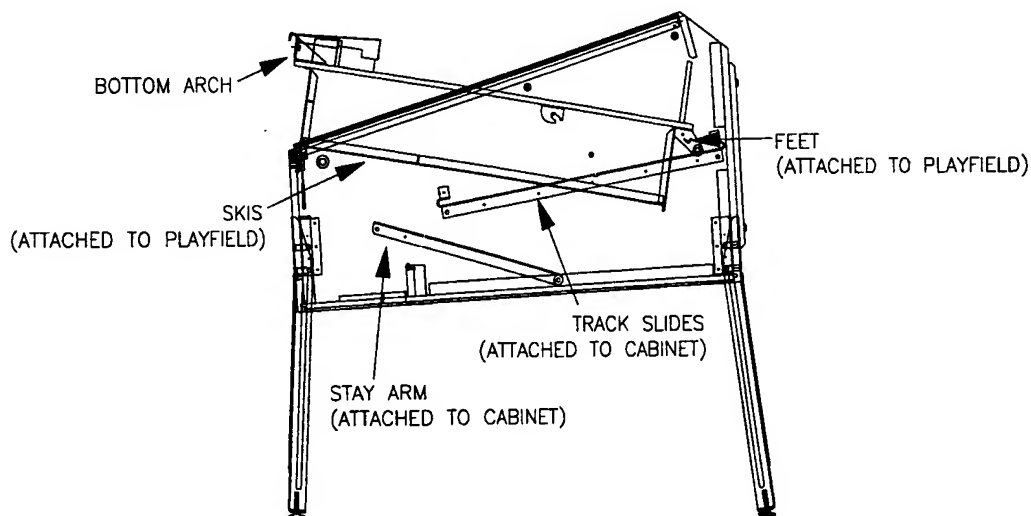

Figure 3
5. Lift the playfield by the support bracket under the bottom arch. Rest the playfield on the top of the cabinet as shown in Figure 3. Close the coin door.